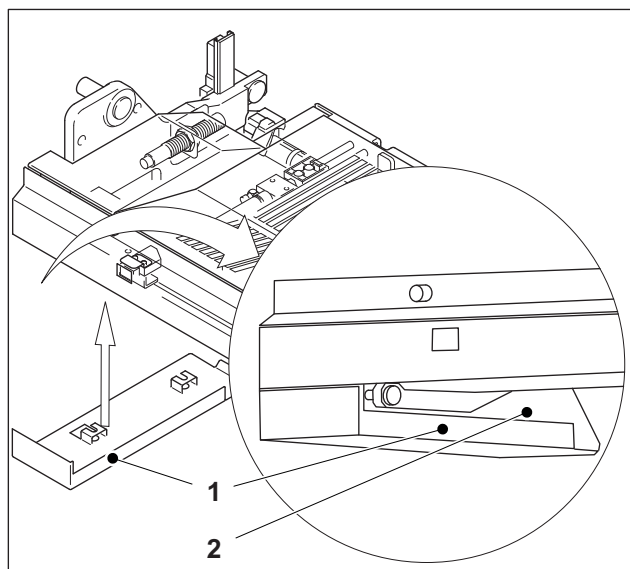

Fig. 38 Aligning the sheet-metal guard and the guide/deflector plate
5. Align the sheet-metal guards (Fig. 38/1) at D.S. and O.S. flush with the guide/deflector plate (Fig. 38/2).